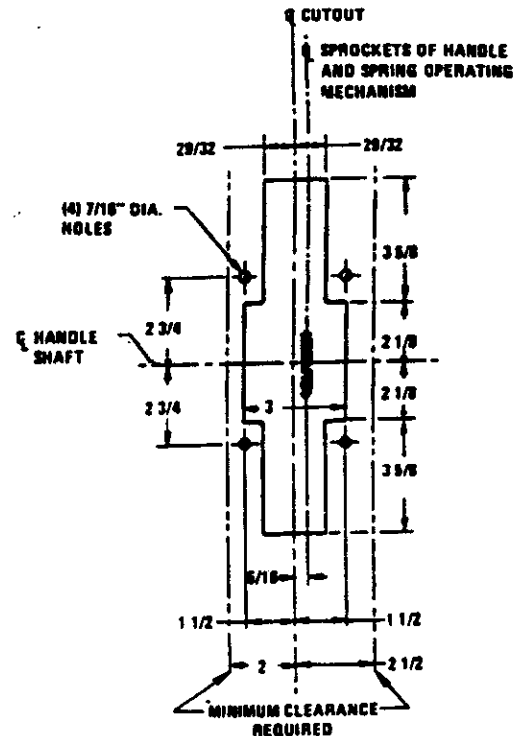

Fig. 4
- c. If not already provided, cut opening and drill or punch four 7/16" diameter mounting holes in right front of enclosure per details in Fig. 4. (This information may also be found on chain-drive operating mechanism Dwg. 316-557.)